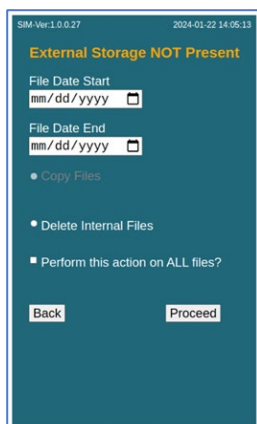
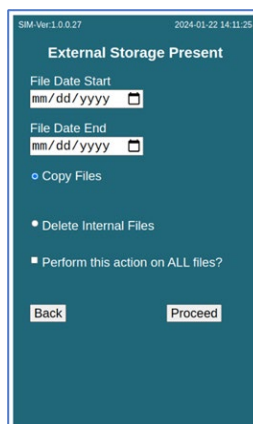

Figure 18. External storage not present
Figure 19. External storage present
Step 2. A USB-A memory stick must be inserted into the unit. If it is not inserted properly, the screen will display “External Storage NOT Present” (Figure 18) or “External Storage Present” once the USB is recognized (Figure 19)